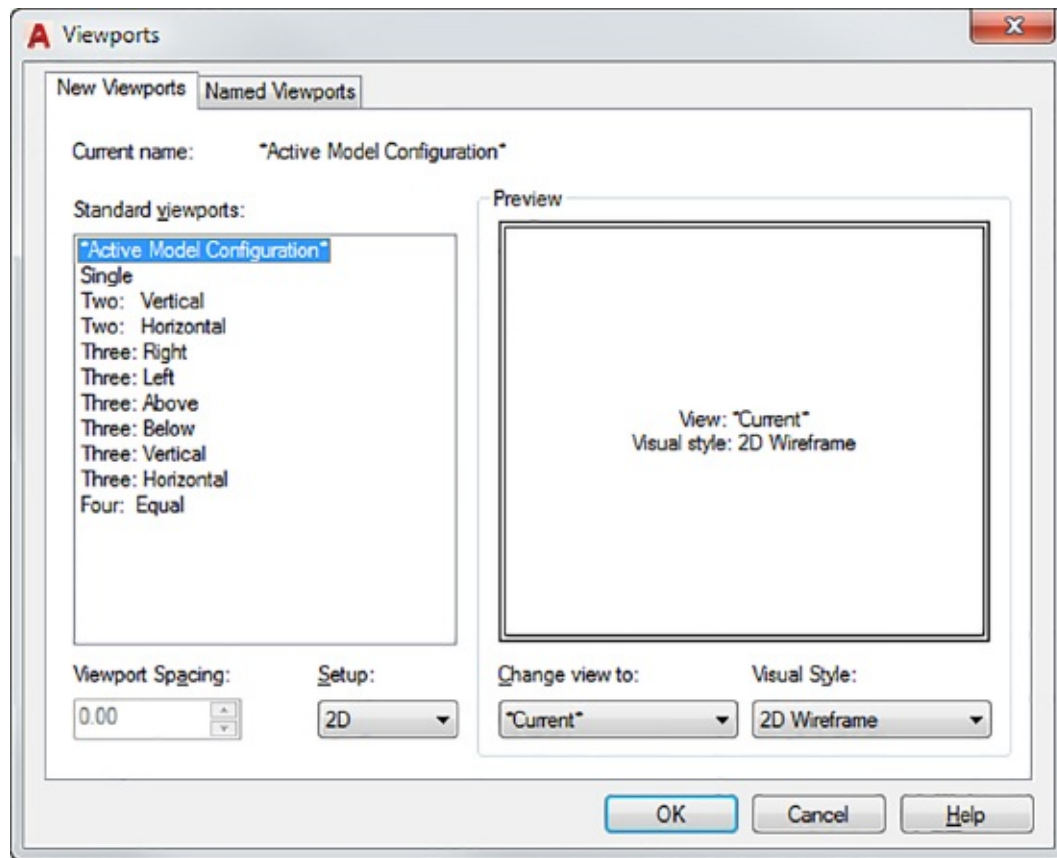

FIGURE 15.6 The Viewports dialog box
4. Click the New Viewports tab. This tab contains a set of predefined viewport layouts (see Figure 15.6). You'll learn more about the Viewports dialog box